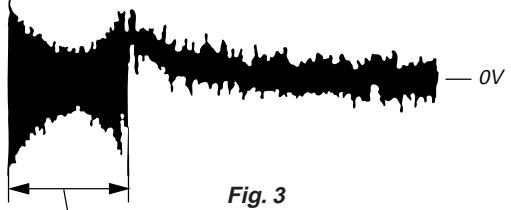

Fig. 3
7. Press **►II (►►I)** or **◀◀** keys and observe the 100 track jump waveform. Check that no traverse waveform appears for both **►II (►►I)** or **◀◀** directions. (See Figures 3 and 4.) It is acceptable if the traverse waveform appears only now and then, but if it appears constantly raise tracking gain slightly and check step 7 again.